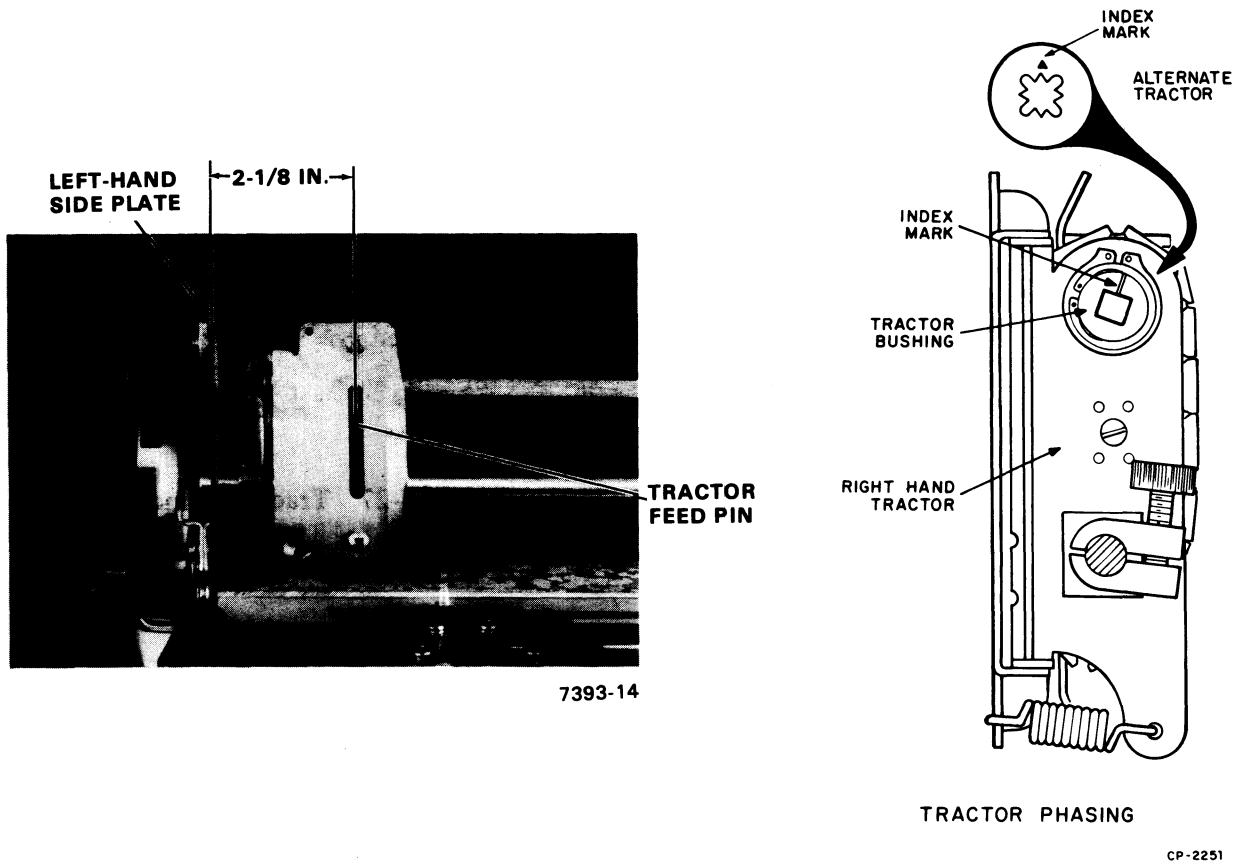

Figure 7-28 Tractor Phasing/Adjustment
When installing the tractor assemblies, ensure that the index marks on the outside of the upper tractor bushings coincide with the same flat on the square shaft (Figure 7-28). If the bushings are not scribed, rotate the tractors until a tractor pin on both tractors are centered on the same flat.
6. Slide the left-hand tractor to the left so that the feed pins are 53.975 mm (2-1/8 inches) from the left-hand side plate (Figure 7-28).